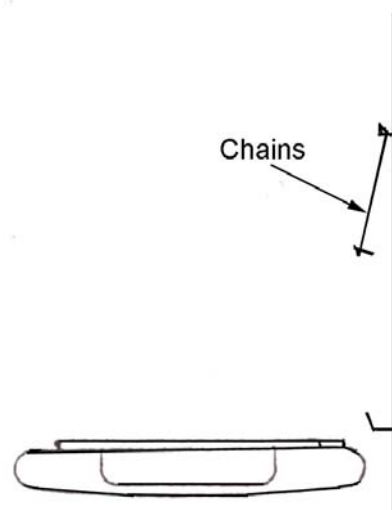

Fig 1
3. Fig 1: Present heater to bracket